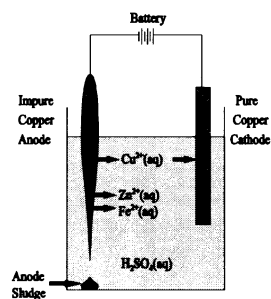

Figure 1. Electrolytic purification of copper.
Zinc and iron (from other trace minerals in the ore) are common impurities in the molten copper that forms by Equation 3. The final step in obtaining highly pure copper metal involves using an electrolytic cell to refine the copper. In the electrochemical cell, *impure* copper acts as the anode and *pure* copper acts as the cathode in a sulfuric acid solution containing Cu^{2+} ions. The cell is shown in Figure 1.
3. (a) For the purification of copper (Figure 1), write complete half-reactions for the reaction at: (i) anode, and (ii) cathode.